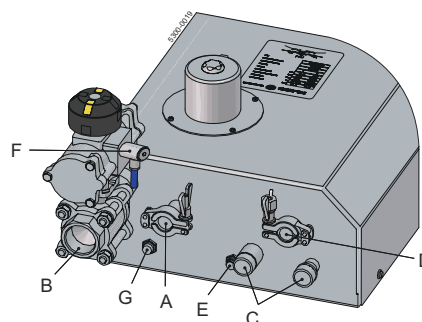
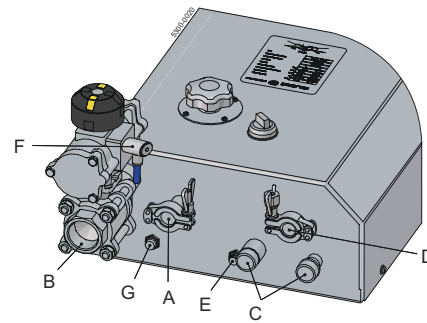

Figure 4: Automatic unit: Connect 6 mm instrument air tubing to E, F and G.
Figure 5: Manual unit: Connect 6 mm instrument air tubing to E.
- 5 Depending on what type of module (automatic or manual), connect instrument air according to Fig 4 or Fig 5. Check valves specification for recommended air pressure. The instrument air should be free of oil and particles, otherwise the valve membrane can be affected, and dirt can end up to the cabinet.